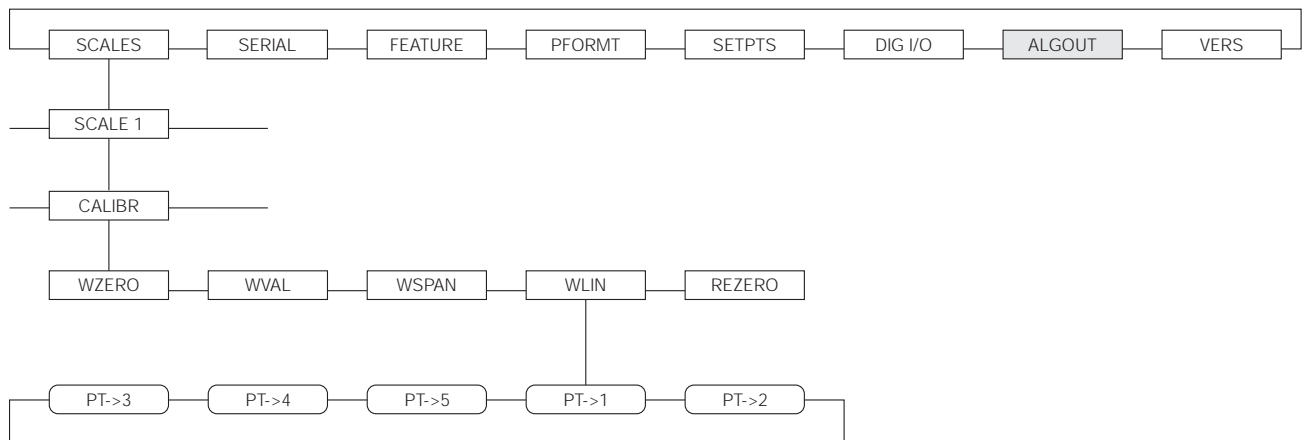
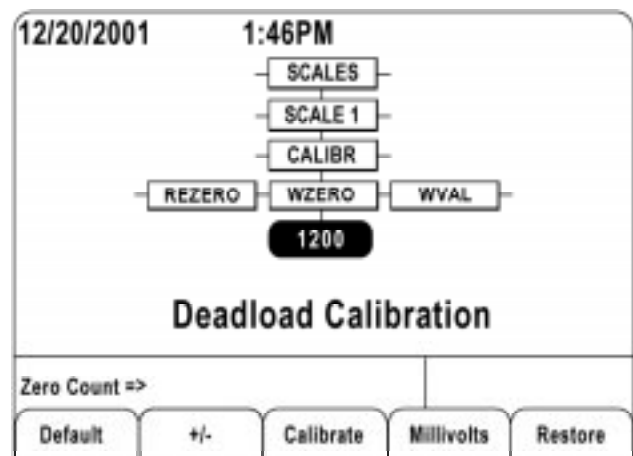

Figure 4-1. Calibration (CALIBR) Submenu
Figure 4-2. WZERO Calibration Display
The **CALIBR** submenu (under the **SCALES** menu, see Figure 4-2) is used to calibrate the *920i*. The zero, span, and linear calibration point displays provide a set of softkeys used specifically for calibration procedures:
2. With the *SCALES* menu highlighted, press the down key, then select the scale to be calibrated. Press down again (*GRADS* parameter highlighted), then press left to highlight the *CALIBR* submenu (see Figure 4-1). Press down to go to zero calibration (*WZERO*). See Figure 4-2 on page 46.